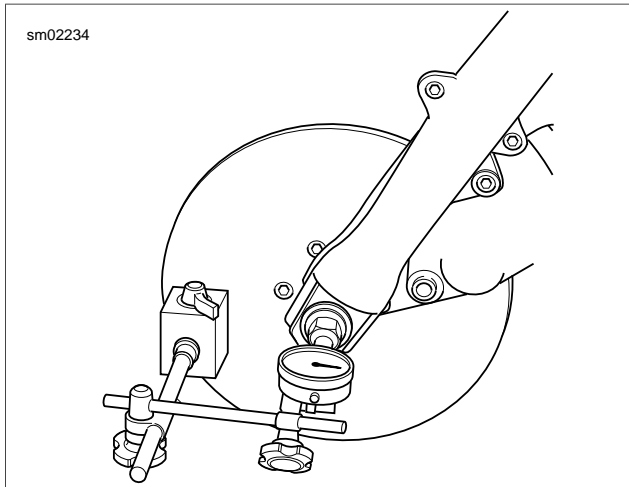

Figure 2-13. Wheel Bearing Inspection (Front Wheel Shown)
3. See Figure 2-13. Mount a magnetic base dial indicator to the brake disc with the dial's contact point on the end of the axle.